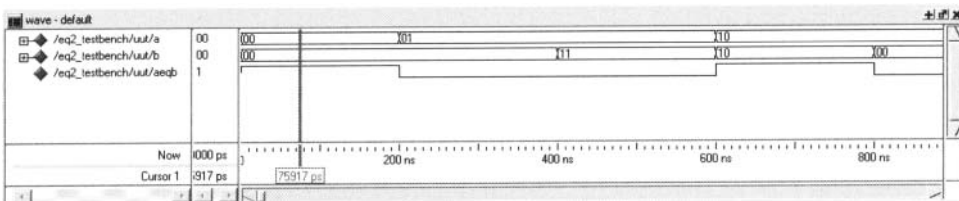

Figure 2.16 Waveform window.
7. The waveform window displays the simulated result, shown in Figure 2.16. We can scroll the window, zoom in, or zoom out to check the correctness of the design.